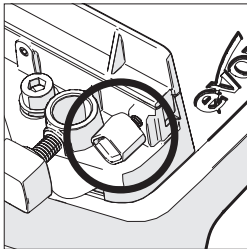

Fig. 4
- Loosen the thumbscrew (Fig. 4).